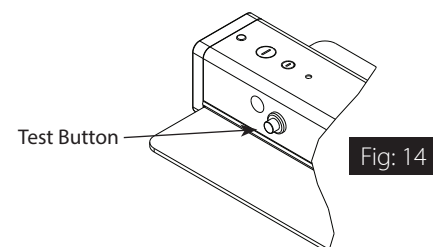

Fig: 14
2. If the charging indicator light does not illuminate after pressing the **Test Button** (Fig. 14), check if battery is connected properly.